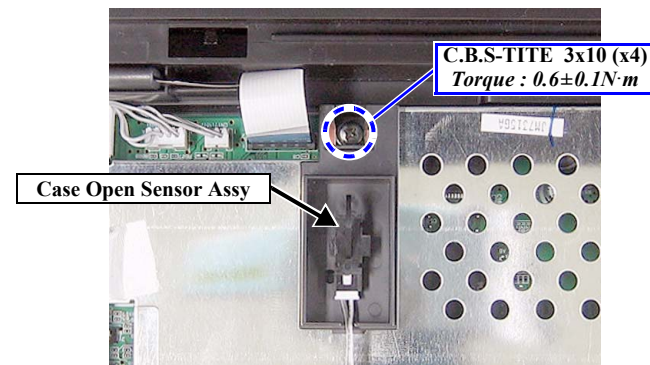

Figure 4-14. Removing the Case Open Sensor Assy
3. Remove the screw and remove the Case Open Sensor Assy. (Fig. 4-14)
1. Remove the Case Open Sensor Assy. (Fig. 4-14)
9. Install the Case Open Sensor Assy. (Fig. 4-14)